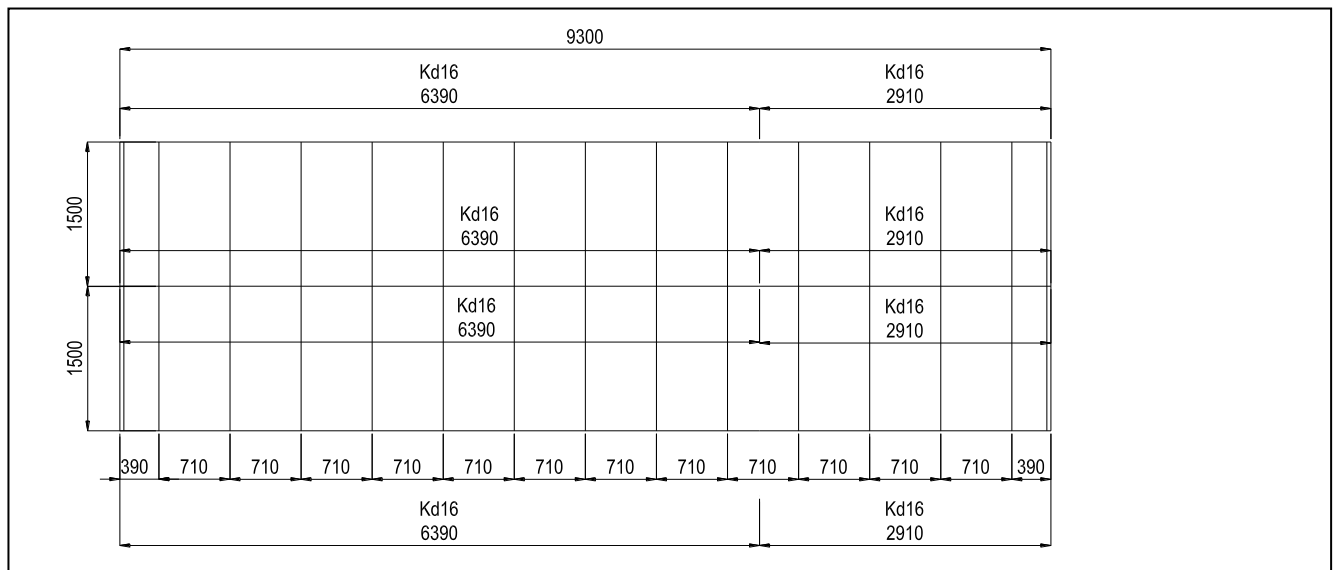

Figure 73 Example layout of the bearing and edge profiles of a dual-pitched rooflight
2. Next, apply PES 40x3 self-adhesive tape along the rooflight base under the edge profiles and the tympanum panel. Once the base has been assembled and insulated, the edge profiles should be fixed to it with $\varnothing 6.3 \times 32$ mm self-drilling screws spaced at 300–350 mm intervals. The base should be positioned such that there are at least two screws between the tensioning screw holes. The position of the edge profile in relation to the base should be as shown in (Figure 73). Assembly of edge profiles.